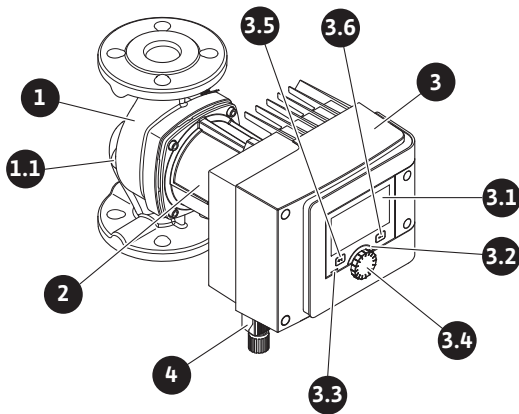

Fig. 1: Overview of single pump
There is a control module (Fig. 1/2, pos. 3) on the motor housing, which controls the pump and provides interfaces. Depending on the chosen application or control function, speed, differential pressure, temperature or volume flow will be controlled.